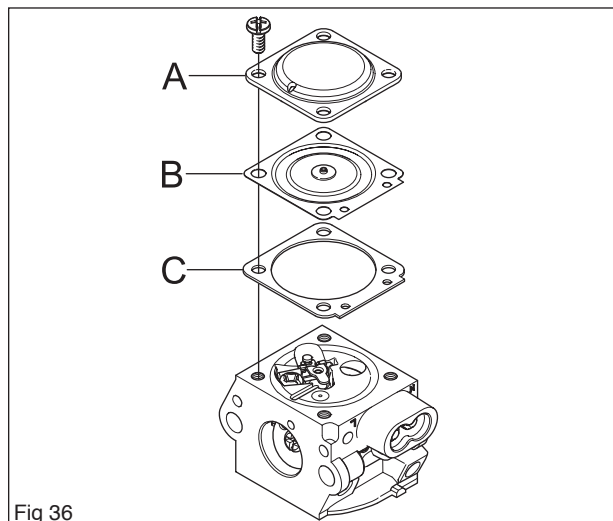

Fig 36
7. Fit the control diaphragm (B) with gasket (C) and cover (A) on the metering unit. (see figure 36)